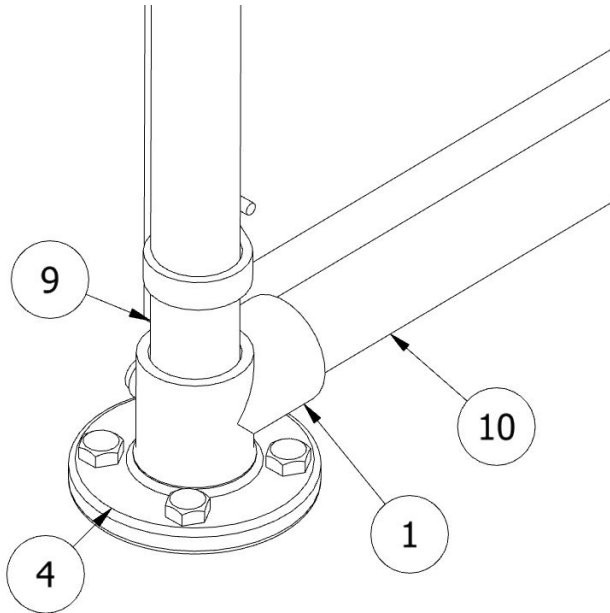

FIGURE 15
1. Tighten (4) ITEM 4 aligning bolt holes such that sufficient room for bolt placement is available.
2. Mark bolt holes on pad and install anchor bolts (supplied by others), washer and lock nuts after placing structure over foundation. **SEE FIGURE 15.**